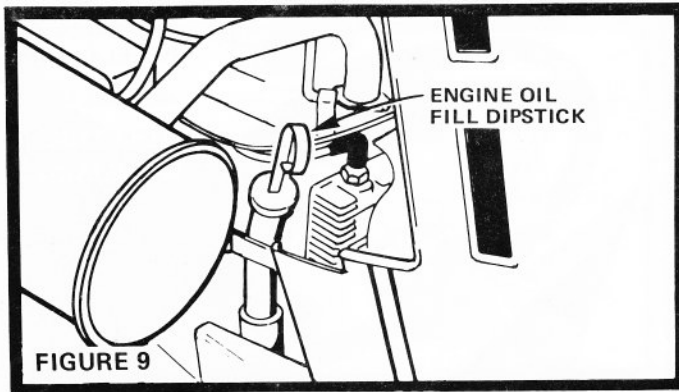

FIGURE 9
1. Check Engine Oil Level with Tractor on level ground. Wipe dipstick (Fig. 9) clean, push it in tight for a few seconds, remove and read Oil Level. If necessary, add Oil until "FULL" mark is reached. In summer use S.A.E. 30 (SC, SD or SE) Oil. In winter (below 32°F.) use S.A.E. 10W30 (SC, SD or SE) or 10W40 (SC, SD or SE). In extreme cold (below 0°F.) use S.A.E. 5W20 (SC, SD or SE). NOTE: DO NOT OVERFILL.